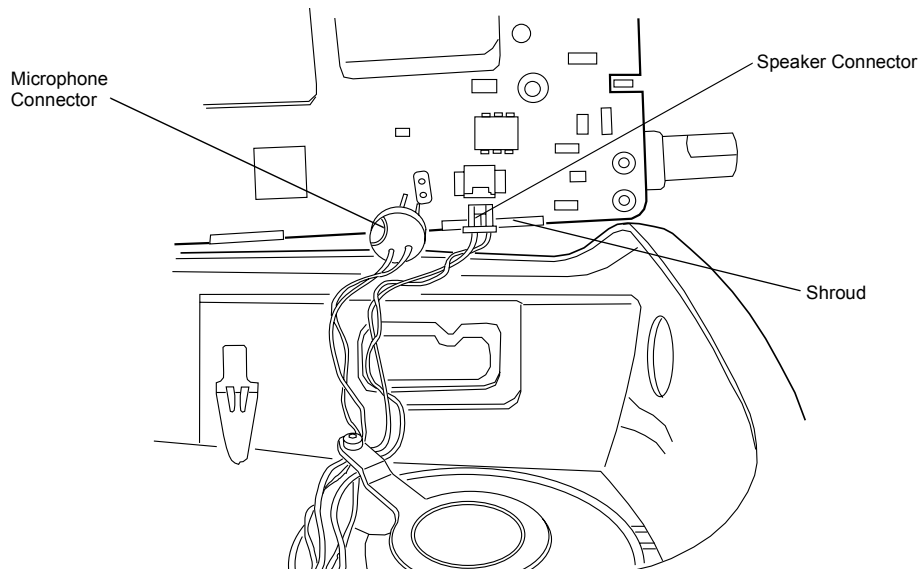

Figure 7-18. Microphone and Speaker Wires
- a. Connect the speaker wire assembly into the 2-pin connector on the main board and bend the wires at the board connector so the wires are positioned toward the top of the radio (Figure 7-18).
- b. Connect the microphone wire assembly into the two hole socket on the main board and bend the wires at the board connector so the wires are positioned toward the top of the radio (Figure 7-18).